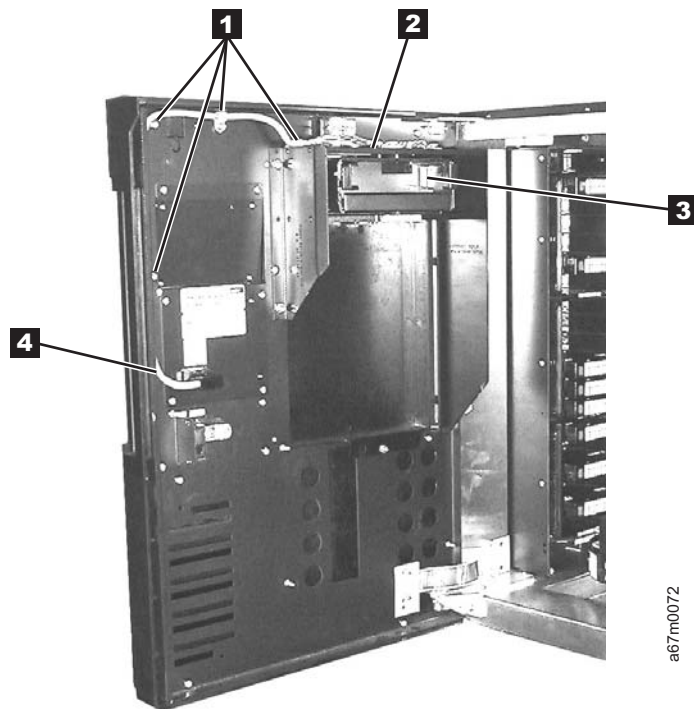

Figure 8-42. I/O Station, Single Slot
4. See Figure 8-42, if a cartridge is present at the I/O Station **3**, remove cartridge.